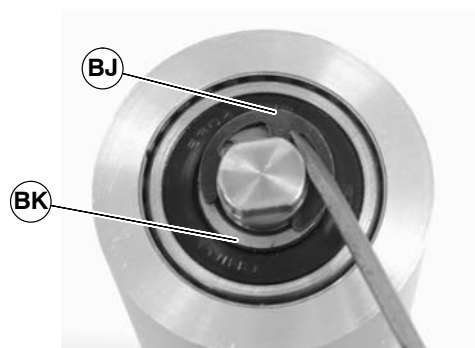

Figure 74
5. Remove the pulley shaft assembly: remove the clip ring (BJ of Figure 74) and washer (BK) from one side of the pulley assembly.